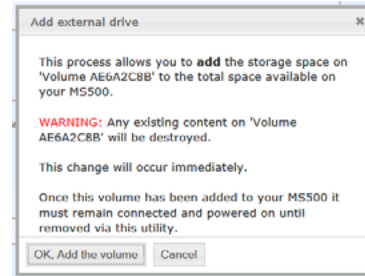
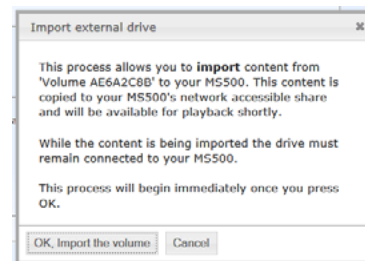
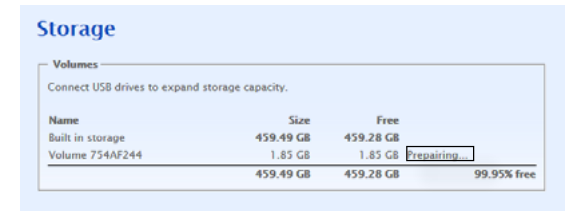

Figure 38
Figure 39
Figure 41
to activate the chosen choice. Refer to figures 38, 39 and 40
- Start the ADD process by clicking on the button “OK, Add the volume”. Refer to figure 38 and then figure 41.
1. Start the Import process by clicking on the button “OK, Import the volume” (Figure 39). During the “Import” functioning, various messages will appear in the window indication the “Importing status”. Refer to figure 41, 42 and 43.